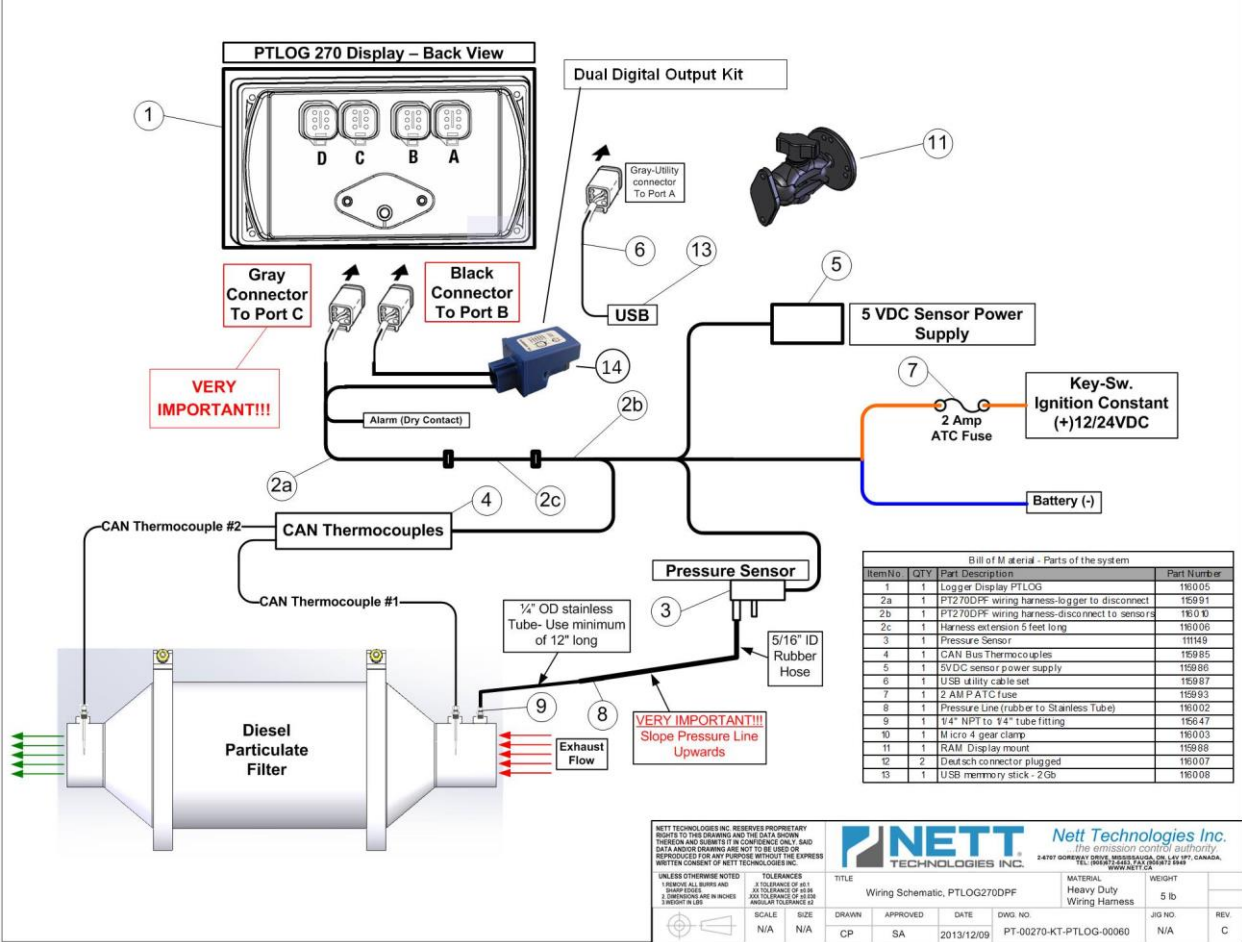

Figure 2: PTLOG™ 270 DPF Monitoring, Alarm and Logger System Schematic
- The PTLOG™270 Screen / Controller (1) (see Schematic, Figure 2) should be mounted in a location which is visible to the operator
- The Screen / Controller unit can be mounted either in the dash board by cutting an opening in the dash front or mounting it on the dash by using the Universal Mount (11)